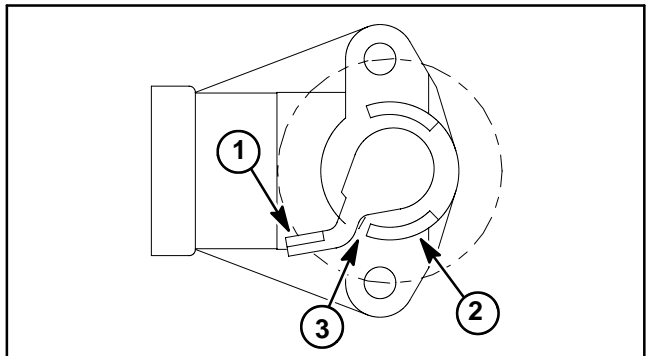

Figure 14
NOTE: The following adjustment procedure should be used on vehicles that have a potentiometer that includes a short lever (Figure 14). If potentiometer has a long lever, use the procedure on the following page.
- A. With the accelerator pedal released, the roll pin on the throttle position collar should keep the potentiometer lever from 0.050" to 0.100" (1.3 to 2.5 mm) from the lower stop on the potentiometer body (Figure 14).